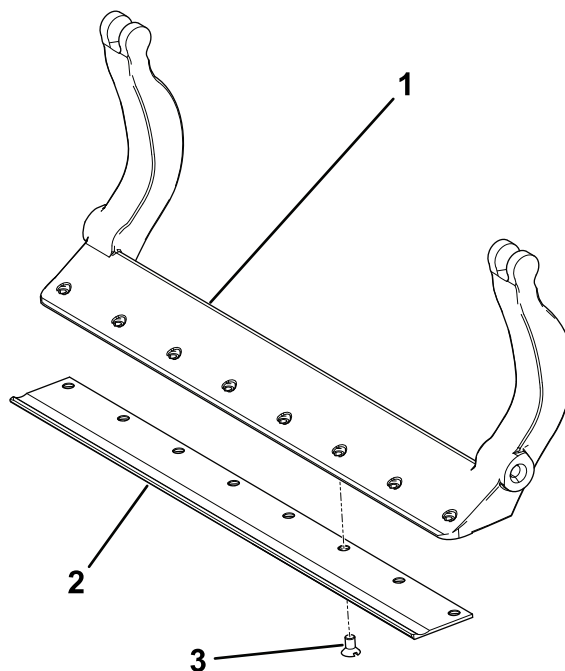

Figure 33
3. Apply anti-seize compound to the screws and install the bedknife to the bedbar as follows (Figure 33):